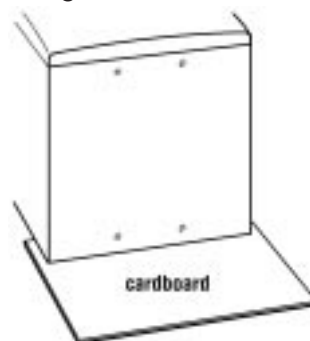

Fig. 2-2
7. Protect the floor with a large piece of cardboard cut from the pedestal carton. Lay the washer on its back so that the cardboard is under the entire lower back edge of the washer. (Fig. 2-2) Go to “Installing the Pedestal”.